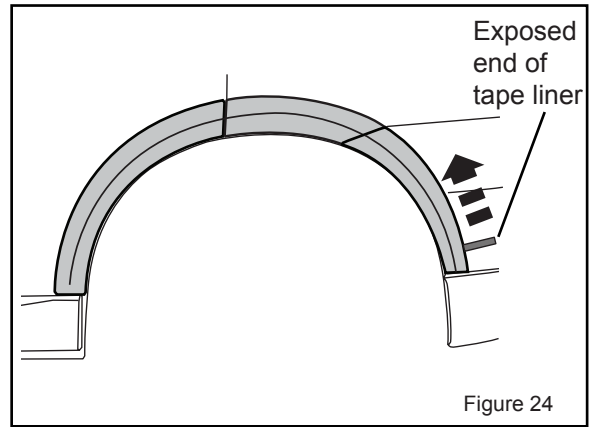

Figure 24
16. Grasp exposed end of tape liner and pull to remove. Figure 24